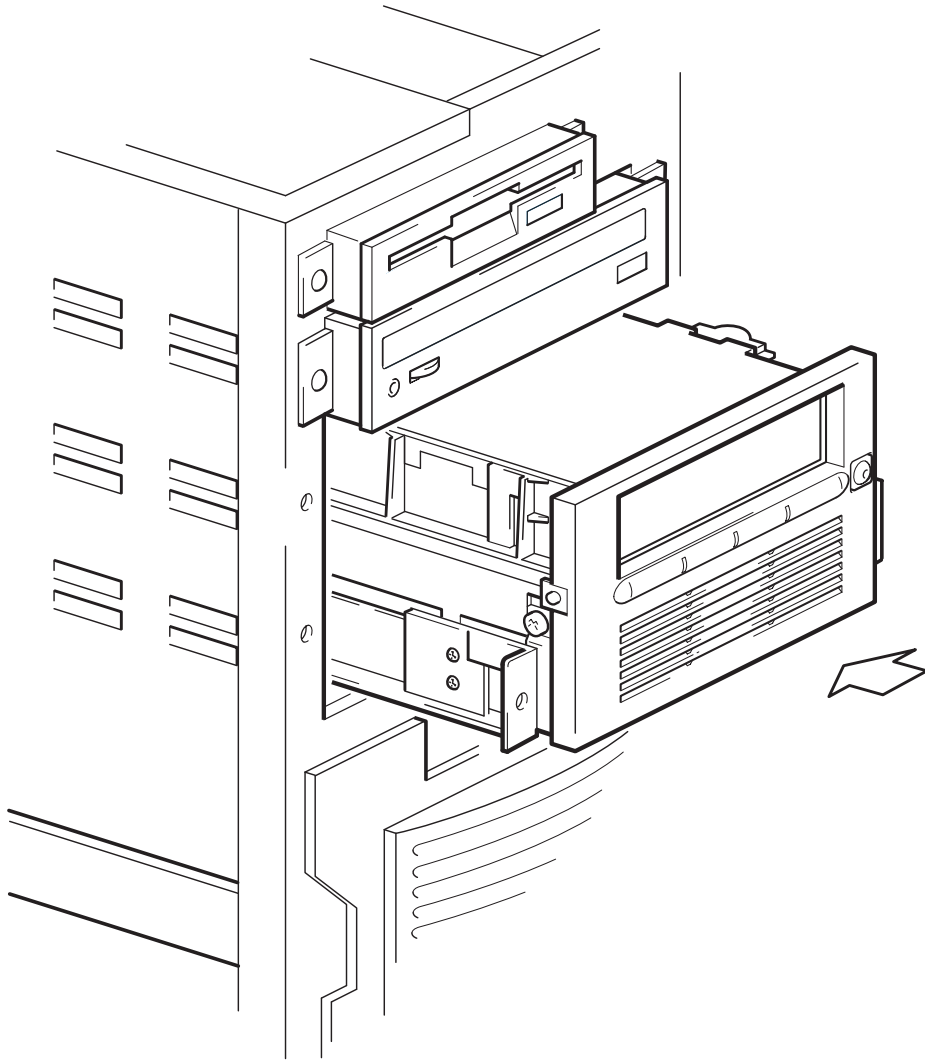

Figure 4: installing the drive
- 1** Slide the tape drive into the open bay, aligning the tray or rails with the slots in the bay, as shown in figure 4.